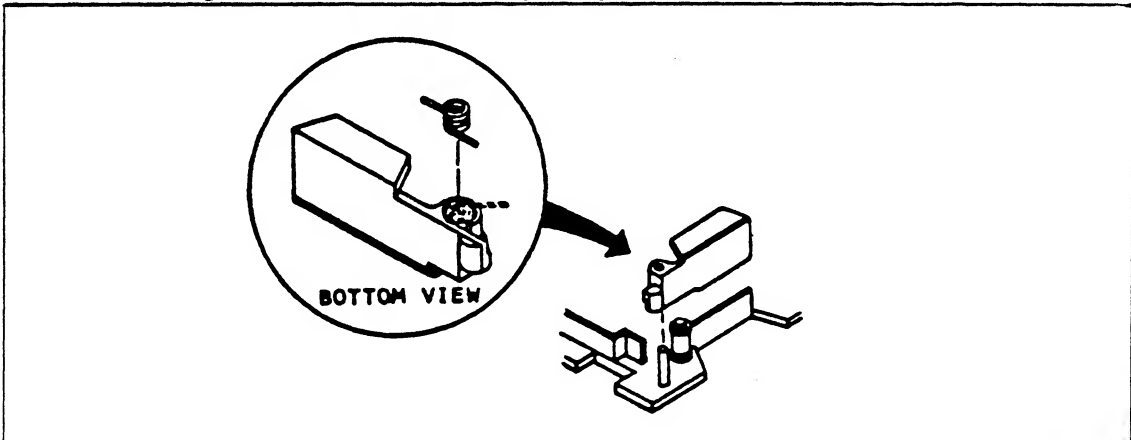

Figure 214-16. Cartridge Tape Spring Installation
- a. Align the long and short ends of the spring with the long and short ends of the gate (see Figure 214-16).